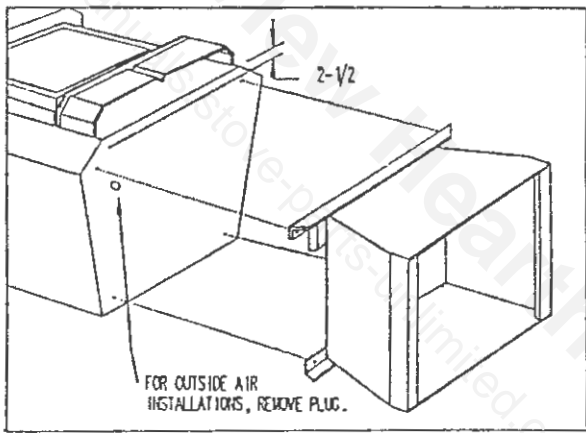

FIGURE 3 MOUNTING PEDESTAL
8. Open the corresponding freestanding kit and obtain the stand. Place the stand against the bottom of the heater (angle side to heater) at the marked line. Center the stand left and right and mark screw locations on bottom through outer holes of stand mounting angles. Set stand aside and drill four 7/32" holes in heater bottom. (See figure 3)